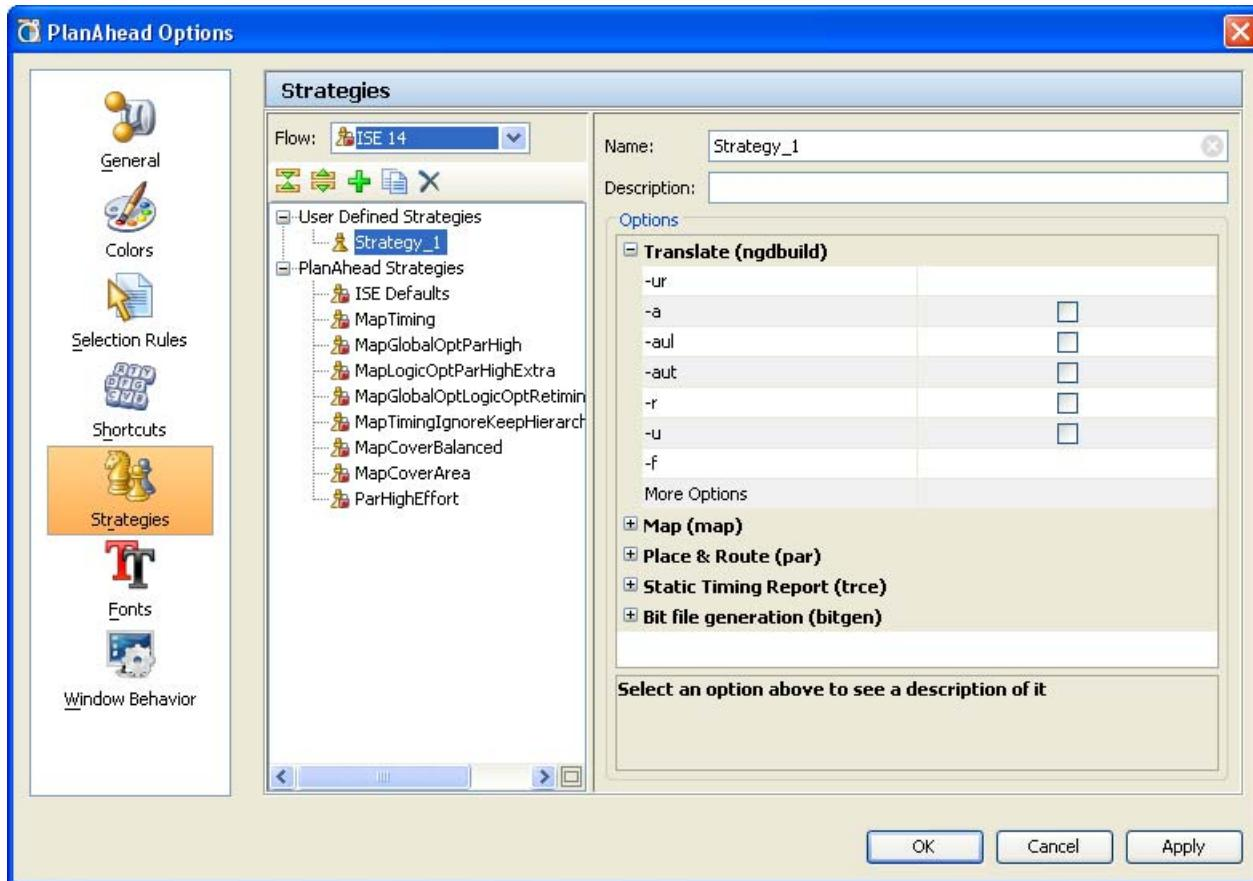

Figure 4-68: Strategies Options
2. Select **Strategies** in the left-side panel. The Strategies dialog box, shown in Figure 4-68, page 182, contains a list of pre-defined strategies for each ISE and Xilinx Synthesis Technology (XST) version.
7. Modify command options by clicking in the command option area (to the right), and selecting an option from the pull down menu, or typing a new value. Available command option settings display in the popup menu, as shown in Figure 4-68, page 182. Notice that you cannot change the default options for predefined PlanAhead tool strategies.